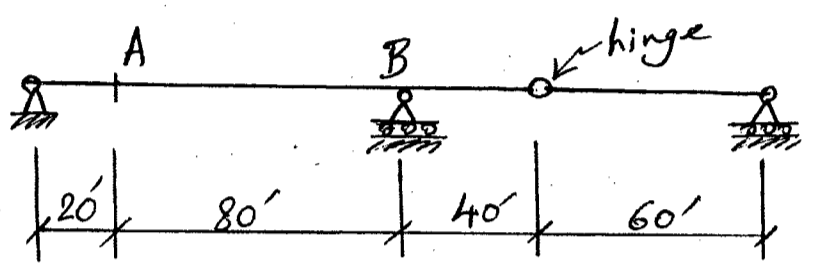

Fig. 11 (Q.no.12)
12. For the beam shown in Fig. 11, draw influence lines for (a) moment at A (b) shear just right of support at B (c) shear just left of support at B and (d) reaction at B. (28)